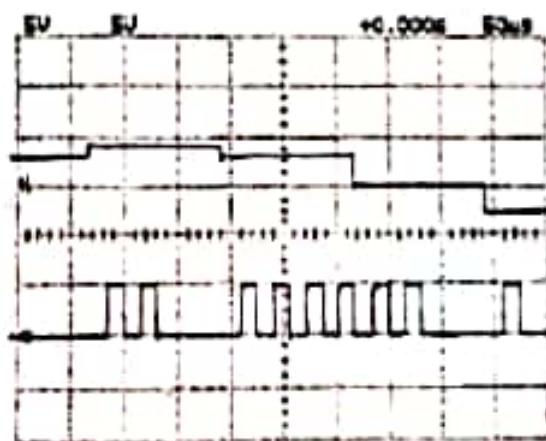

Figure 5-10. Phase size of instantaneous sampling (above) & PCM direct signal (below)
(12) If input probe of oscilloscope CH-1, 2 would be connected to J1 and PCM OUTPUT terminal of PCM-1 module, wave form of oscilloscope as figure 5-10 will be appeared. At that time, adjust TIME/DIV to  $50(\mu s)$  for making the size of quantization phase to appear on the oscilloscope screen with about four pieces.